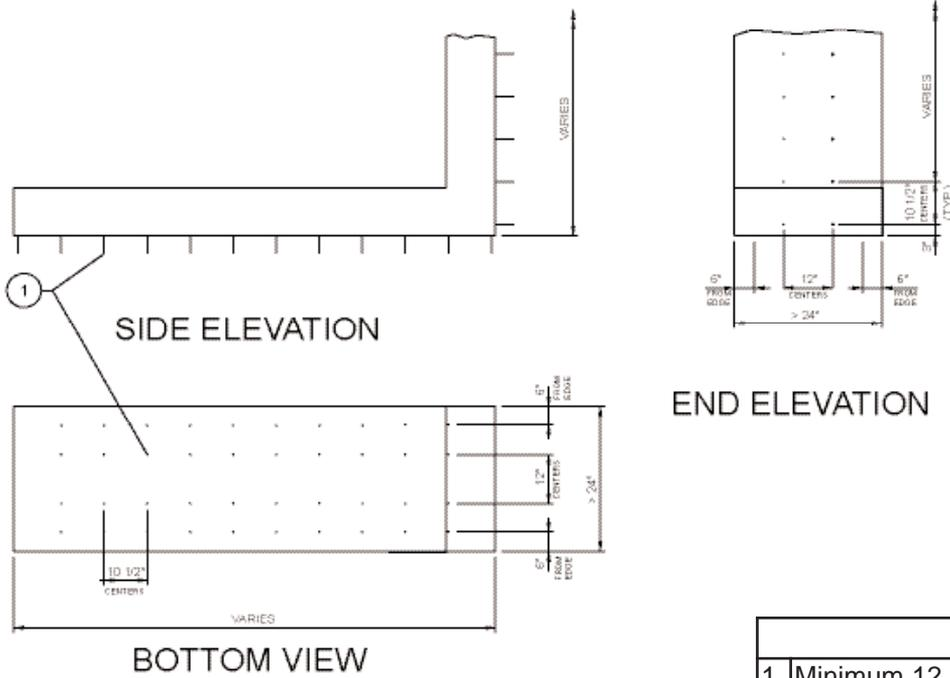

Figure 3
2. Pinning (Figure 3) - For duct spans 24" or larger, min. 12 gage, 5" long steel insulation pins are welded to the duct in columns spaced 12" apart, 6" - 12" from each edge and on 10½" centers along bottom horizontal and outside vertical runs to prevent blanket sag. Pins are also required 1" from the end of a duct and 1" from any edge near a 90° bend, spaced on 6" centers. Pins are locked into place with 1½" diameter round or square, galvanized steel, speed clips or cup head pins. Pins that extend beyond the outer blanket wrap layer shall be turned down to eliminate sharp edges or the excess length cut off.